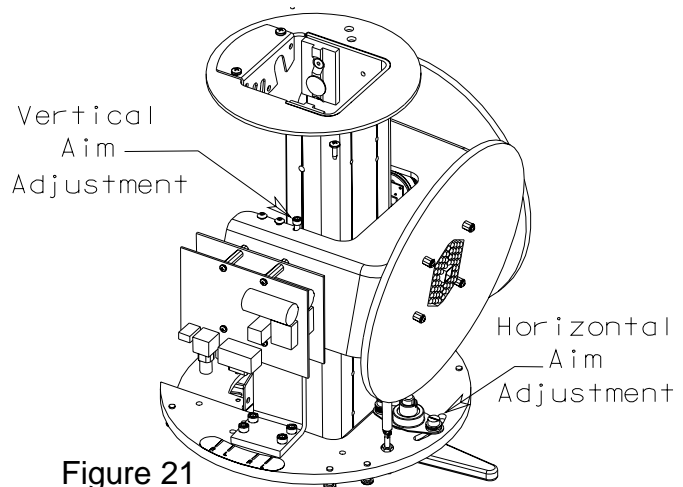

Figure 21
E. From Aligner Diagnostic, select Camera View. Set the cameras to Manual Mode. Move the center of the left camera to the Overall Camera Height (C) recorded in (step B) (± 1 "). Make sure the camera assemblies are fully seated and tight under the two button head screws beside the vertical aim adjustment (Figure 21).